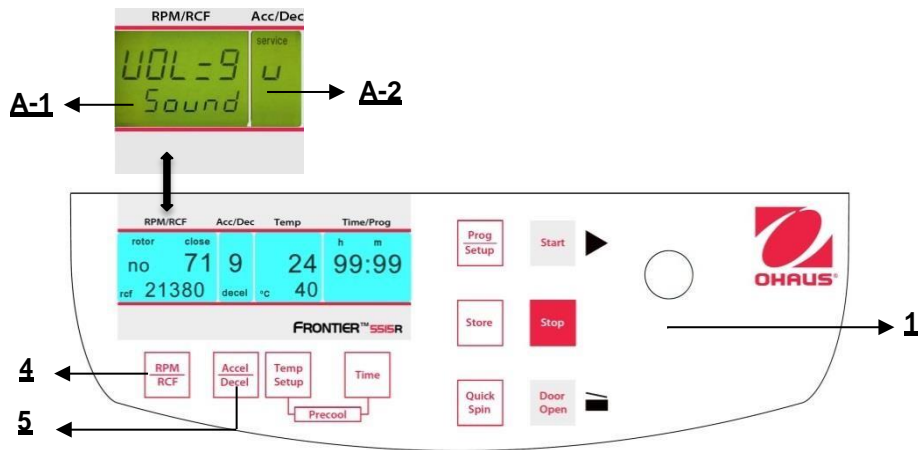

Figure. 34
Proceed as described under point 4.1.2 to enter this program mode and then press the key "Accel/Decel" (5). In the display "Acc/Dec" (A-2) the word "Service" flashes. Now select the letter "U" with the adjusting knob (1). As a result, in the display "RPM | RCF" (A-1) the words "Vol=0-9/Sound" appear. After pressing the key "RPM | RCF" (4), you can adjust the desired volume between 0 (low) and 9 (loud) with the adjusting knob (1) (See figure 34).